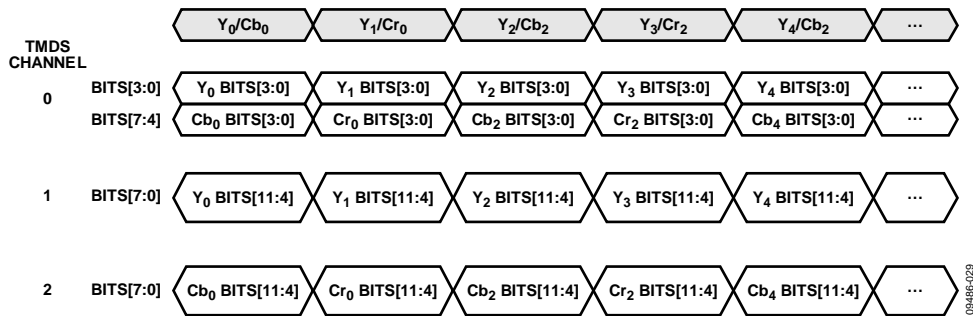
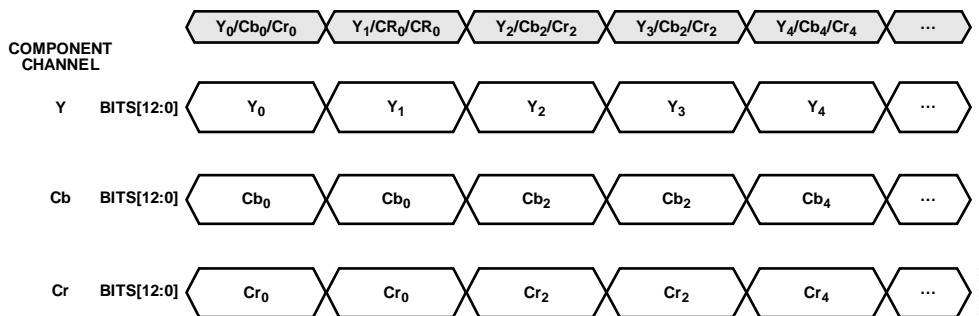

Figure 28. YCbCr, 4:2:2 Video Data Encapsulated in HDMI Stream
Figure 29. Video Stream Output by HDMI Core for YCbCr, 4:2:2 Input and $UP_CONVERSION = 0$
- If the HDMI section receives a stream with video encoded in a 4:2:2 format (refer to Figure 28), the HDMI section upconverts the video data into a 4:4:4 format, according to the UP_CONVERSION_MODE bit, and passes the upconverted video data to the DPP section (refer to Figure 29).